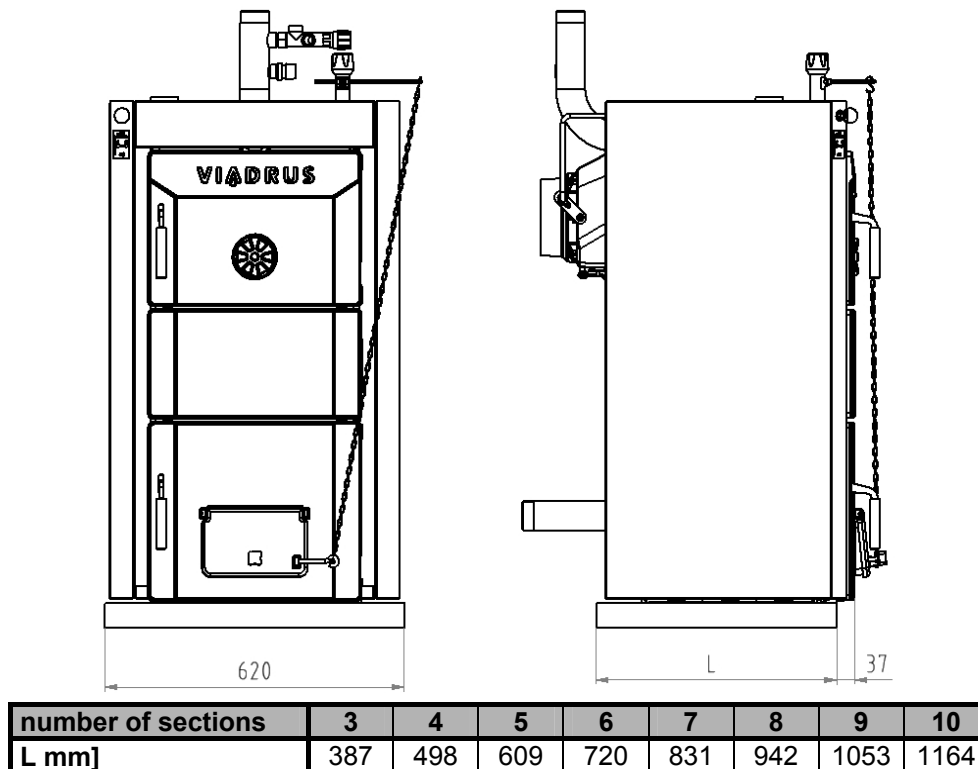

Fig. No. 8 Substruction (retaining wall) dimensions
1. Installation on a floor made of incombustible material (Fig. No. 8)